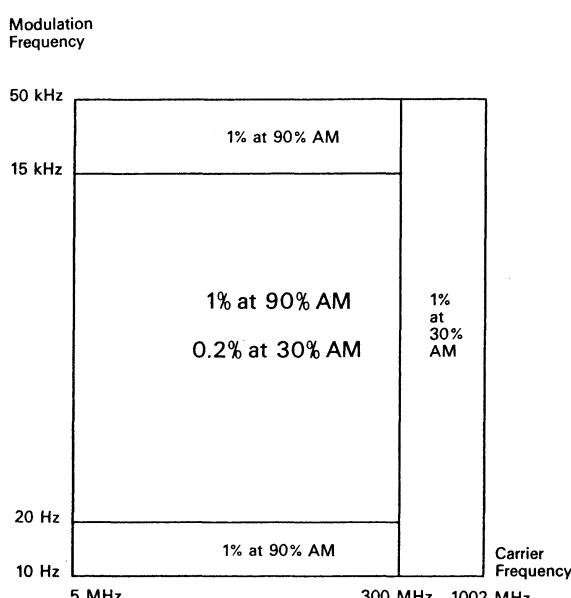

Fig. E2. Distortion for modulation percentage measurements.
15) Read the modulation percentage. Check if the reading is the same for both peaks of modulation; a difference indicates distortion of the modulation envelope. See Fig. E2, and refer to SECTION B - SPECIFICATIONS under "AM MODULATION Distortion".